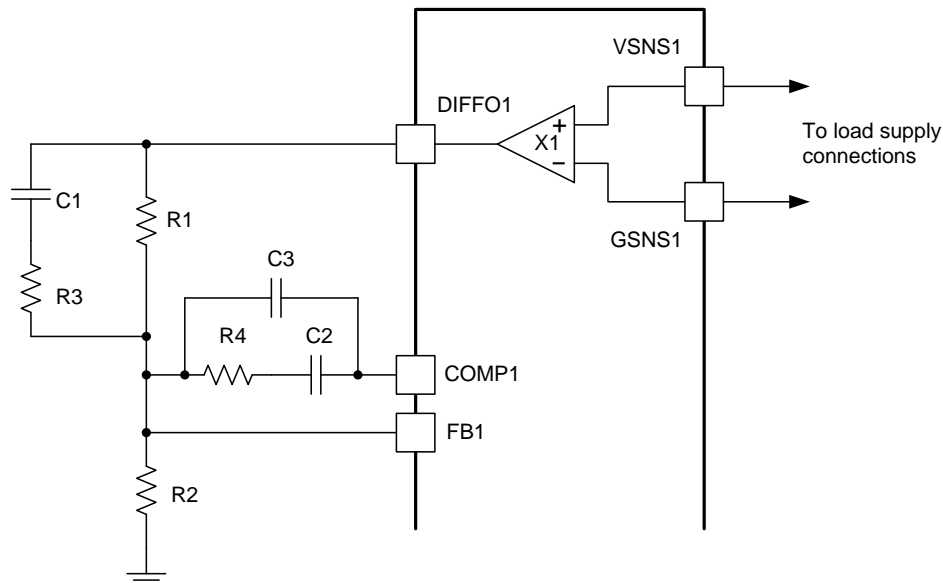

Figure 12. Setting the Output Voltage
Setting the output voltage is very similar to that of a traditional analog controller using a voltage divider from the output to the feedback (FB) pin. The output voltage must be divided to the nominal reference voltage of 600 mV. Figure 12 shows the typical connections for the controller. The voltage at the load is sensed using the unity gain differential voltage sense amplifier. This type of sensing provides better load regulation (see electrical specifications for the maximum output voltage of the differential sense amplifier).